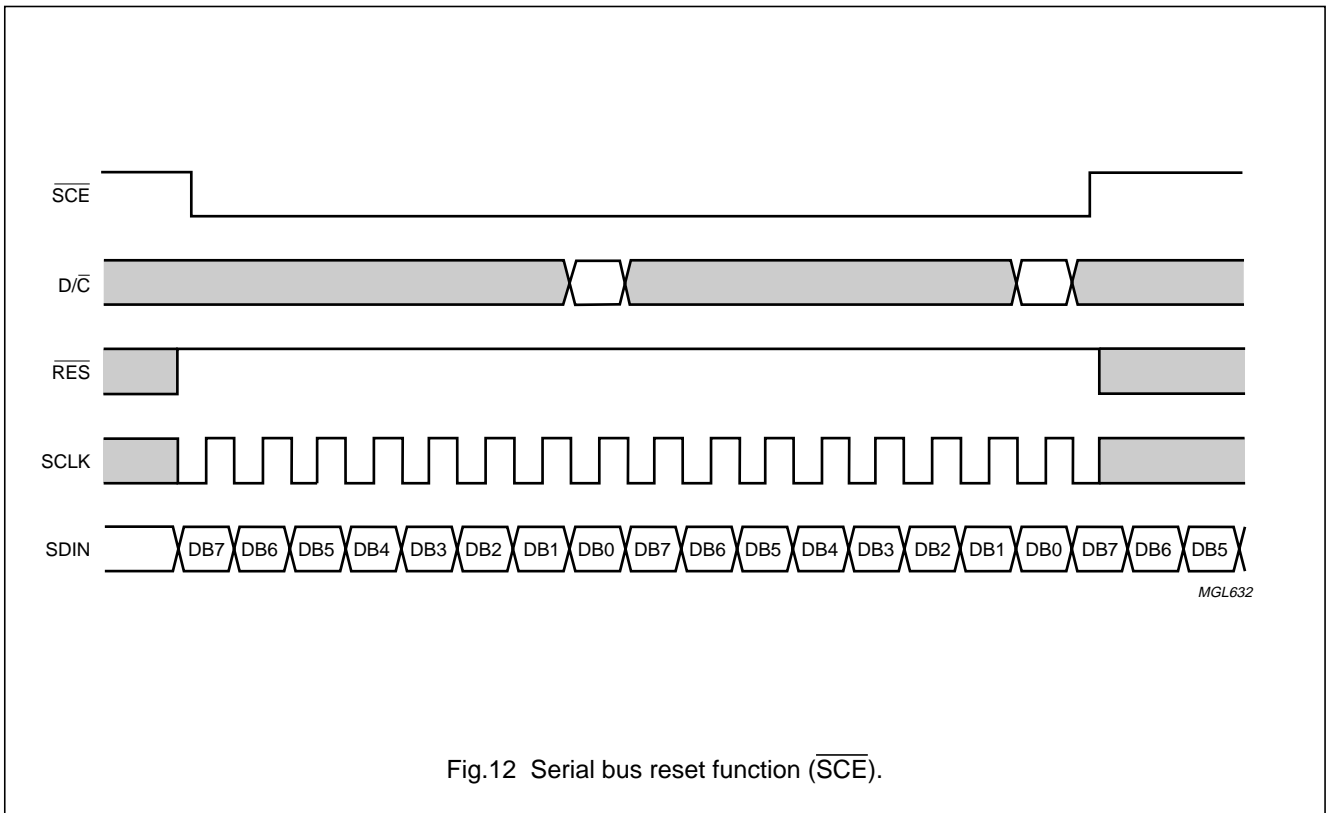

Fig.12 Serial bus reset function (\overline{SCE}).
- When \overline{SCE} is HIGH, SCLK clock signals are ignored; during the HIGH time of \overline{SCE} , the serial interface is initialized (see Fig.12)
- If \overline{SCE} stays LOW after the last bit of a command/data byte, the serial interface expects bit 7 of the next byte at the next positive edge of SCLK (see Fig.12)